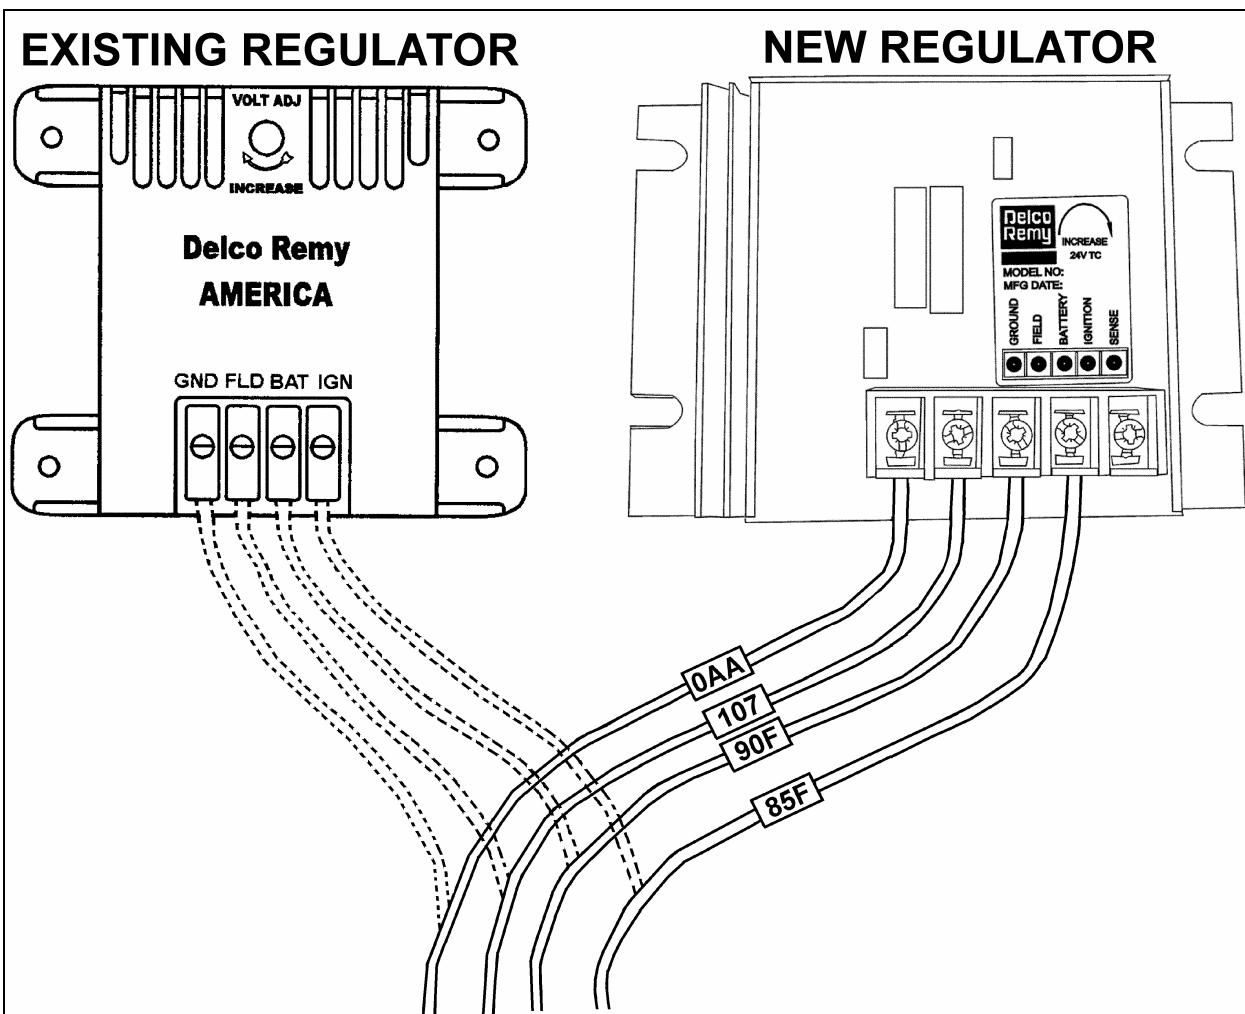

FIGURE 2
1. Identify at "GND" terminal of existing regulator, the black wire identified "0AA", disconnect it then reconnect to "GND" terminal on new regulator. Tighten terminal screw to 12-15 Lbf-in (Refer to figure 2).
2. Identify at "FLD" terminal of existing regulator, the red wire identified "107", disconnect it then reconnect to "FLD" terminal on new regulator. Tighten terminal screw to 12-15 Lbf-in (Refer to figure 2).
3. Identify at "BAT" terminal on existing regulator, the red wire identified "90F", disconnect it then reconnect to "BAT" terminal on new regulator. Tighten terminal screw to 12-15 Lbf-in (Refer to figure 2).
4. Identify at "IGN" terminal on existing regulator, the red wire identified "85F", disconnect it then reconnect to "IGN" terminal on new regulator. Tighten terminal screw to 12-15 Lbf-in (Refer to figure 2).